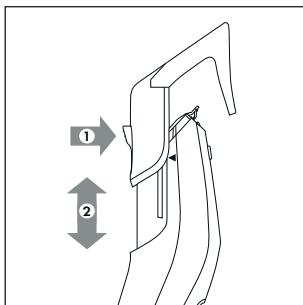
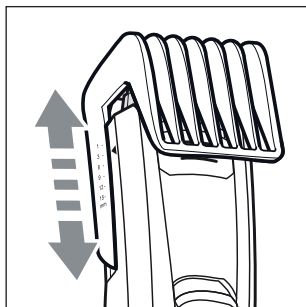

Fig. 3
Fig. 4
- ◆ Press the button on the back of the comb attachment **10/11** and push the comb attachment **10/11** upwards or downwards (see fig. 3). In this way, you can set the desired cutting length (see also the section **Cutting hair**).
- 3) Set the cutting length to the desired hair length on the comb attachment **10/11**. To do this, press the button on the back of the comb attachment **10/11** and push the comb attachment **10/11** upwards or downwards (see fig. 3). You can read the cutting lengths via the markings on the comb attachment **10/11** (see fig. 4). Start with a longer cutting length and reduce this in stages while cutting the hair.
- ◆ Set the cutting length to the desired hair length on the comb attachment **10/11**. To do this, press the button on the back of the comb attachment **10/11** and push the comb attachment **10/11** upwards or downwards (see fig. 3). You can read the cutting lengths via the markings on the comb attachment **10/11** (see fig. 4). Now trim your beard in stages.